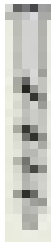

Fig. 146: Coach screw
4. Coach Screws: Used where a bolt would be more desirable but for some reason, cannot be used (figure 146).